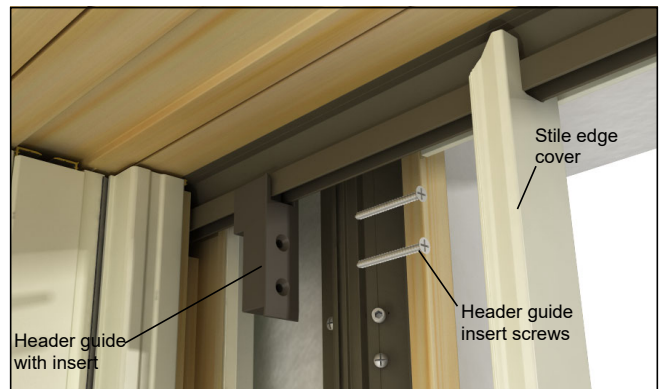

Figure 47
8. Test operation of the panel to see that it is engaging with the pocket interlock properly. If adjustments are necessary remove stile edge cover and header guide with insert. Slide panel back into the pocket to adjust the interlock. See figure 47.